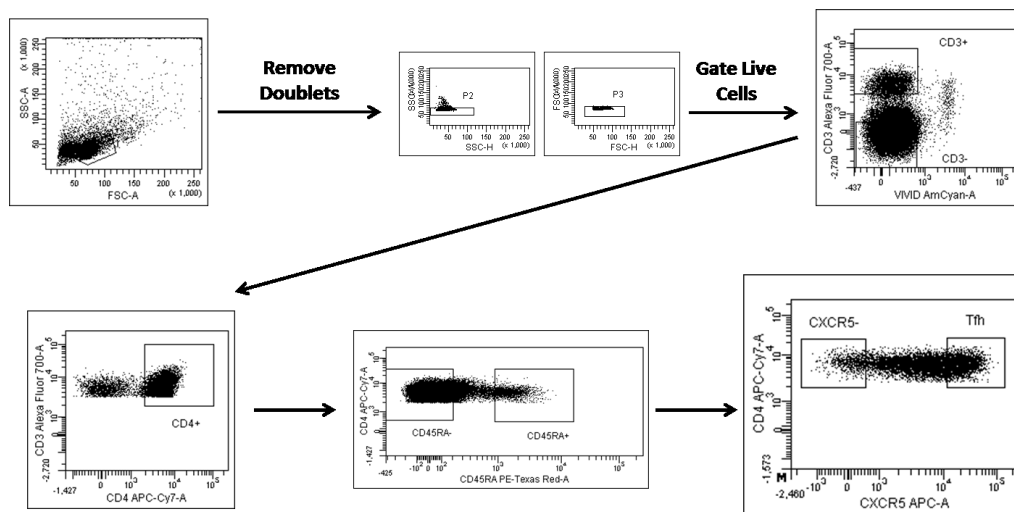

Figure 1. Gating strategy for sorting Tfh cells. Tfh cells are gated as $CD3^+CD4^+CD45RA^-CXCR5^{++}$ cells after excluding doublets and dead cells.
10. Proceed to cell sorting. Gate Tfh cells and germinal center (GC) B cells after excluding doublets and dead cells as: $CD3^+CD4^+CD45RA^-CXCR5^{++}$ (Figure 1) and $CD3^-CD19^+CD38^+IgD^-$ (Figure 2) respectively.